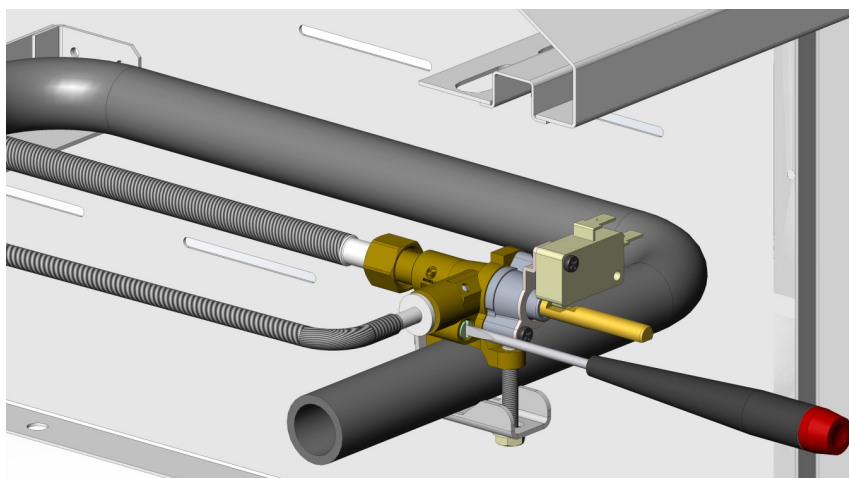

Figure 2
4. Insert a small, flat-blade screwdriver into the small screw to the left of the valve stem to begin the adjustment (see Fig. 2). The screw only has 2-3 complete revolutions of adjustment. After this, the screw may continue to turn, but is actually coming out of the valve and could result in a gas leak. DO NOT turn more than 3 revolutions!